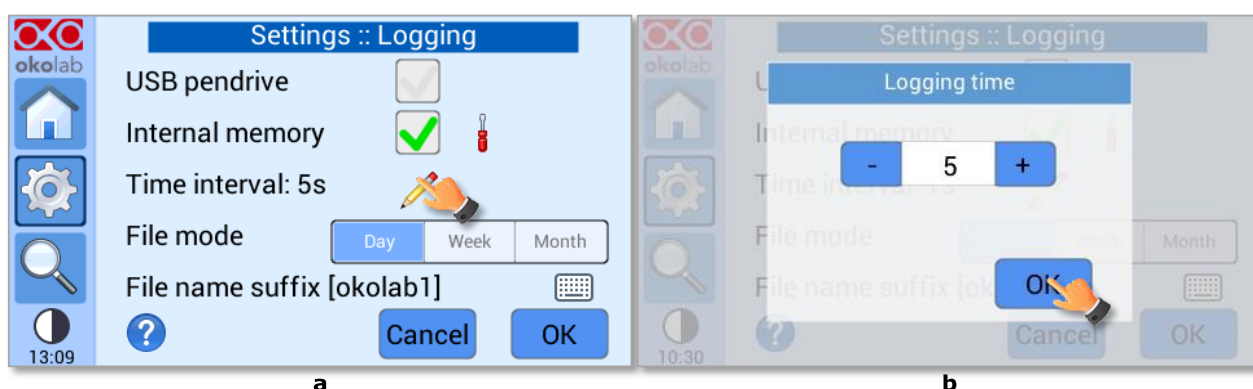
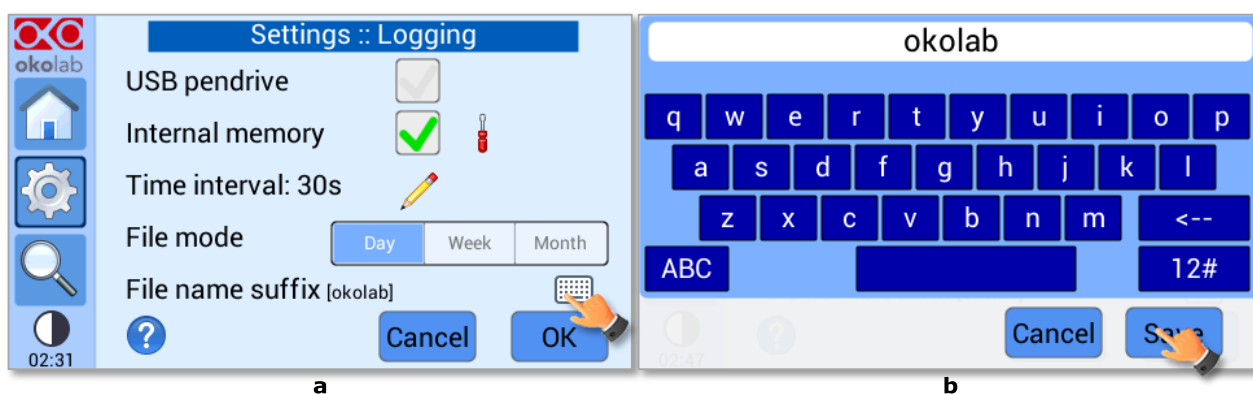
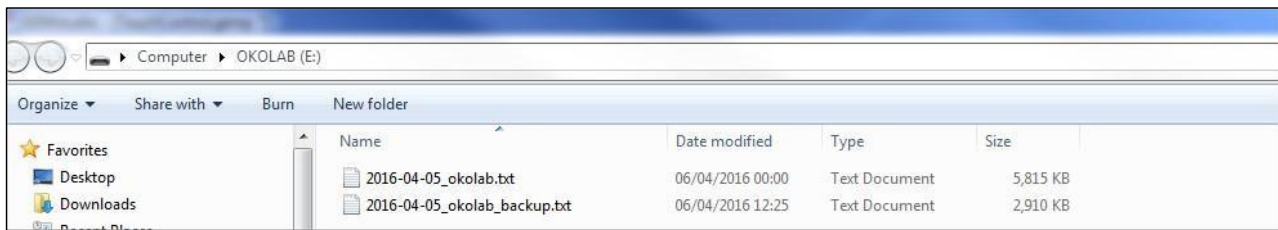

Figure 52. How to set the logging time
Figure 53. Data Logging. How to define the suffix for the downloaded files
Figure 54. Downloaded files on the pen drive
- 2 Press on the icon  to insert the logging time, see Figure 52. You can change this time in the range 1-60 seconds.
- 3 Choose how you want to split the data when downloaded, by pressing on *Day*, *Week* or *Month*, see Figure 52 (a).
- 4 Write the file name suffix to be reported in the downloaded files by pressing on the keyboard icon , see Figure 53(a). Then press on *Save*, see Figure 53(b).
Tip ► With the selections done in Figure 52 and in Figure 53, the data will be downloaded in the USB drive as shown in Figure 54.